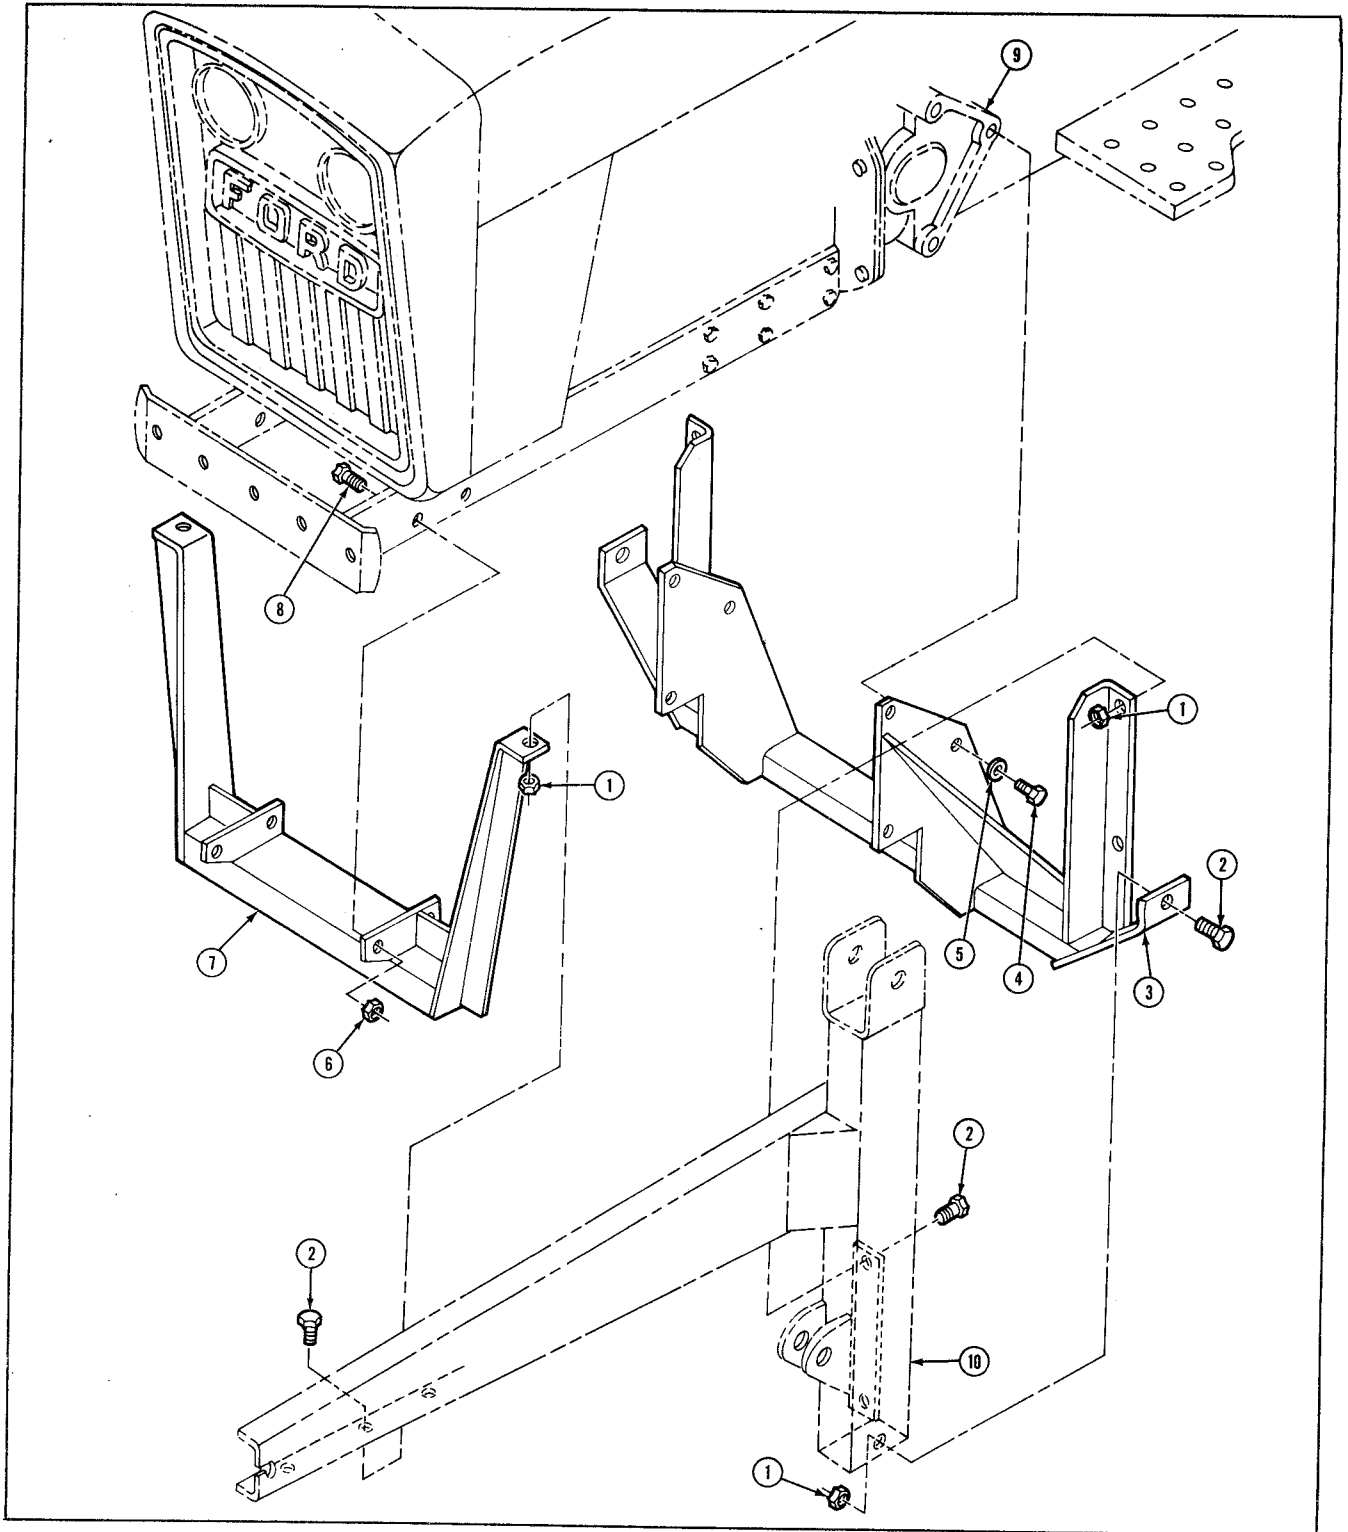

Figure 1
1. Attach front mounting bracket (7), Figure 1, to each side of the tractor frame with four cap screws (8) and lock nuts (6).
2. Attach frame support bracket (3), Figure 1, to the mounting pads (9) on each side of the tractor transmission case. Use six metric cap screws (4) and lock washers (5).
3. Attach each loader side frame (10) to the frame support bracket and front mounting bracket with four cap screws (2) and lock nuts (1). See Figure 1.